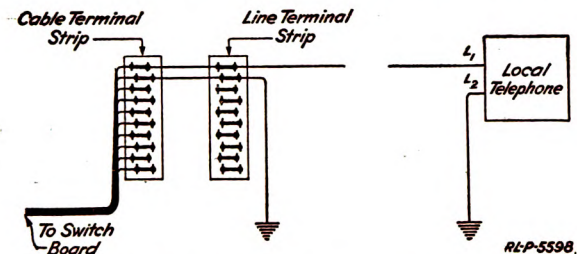

Fig. 47.—Ground return local circuit
1. *a.* Connect the wire or pair of wires which is to form the metallic side of the circuit to the top binding post of a pair on the line terminal strip. Connect the other binding post of the same pair to ground. (Fig. 47.)
*c.* If the circuit is a local at the subscriber's telephone, connect the line wire or wires to the binding post marked  $L_1$  and connect  $L_2$  to ground. Ring back to the switchboard and when the operator answers, notify him that the circuit is installed. (See Fig. 47.)